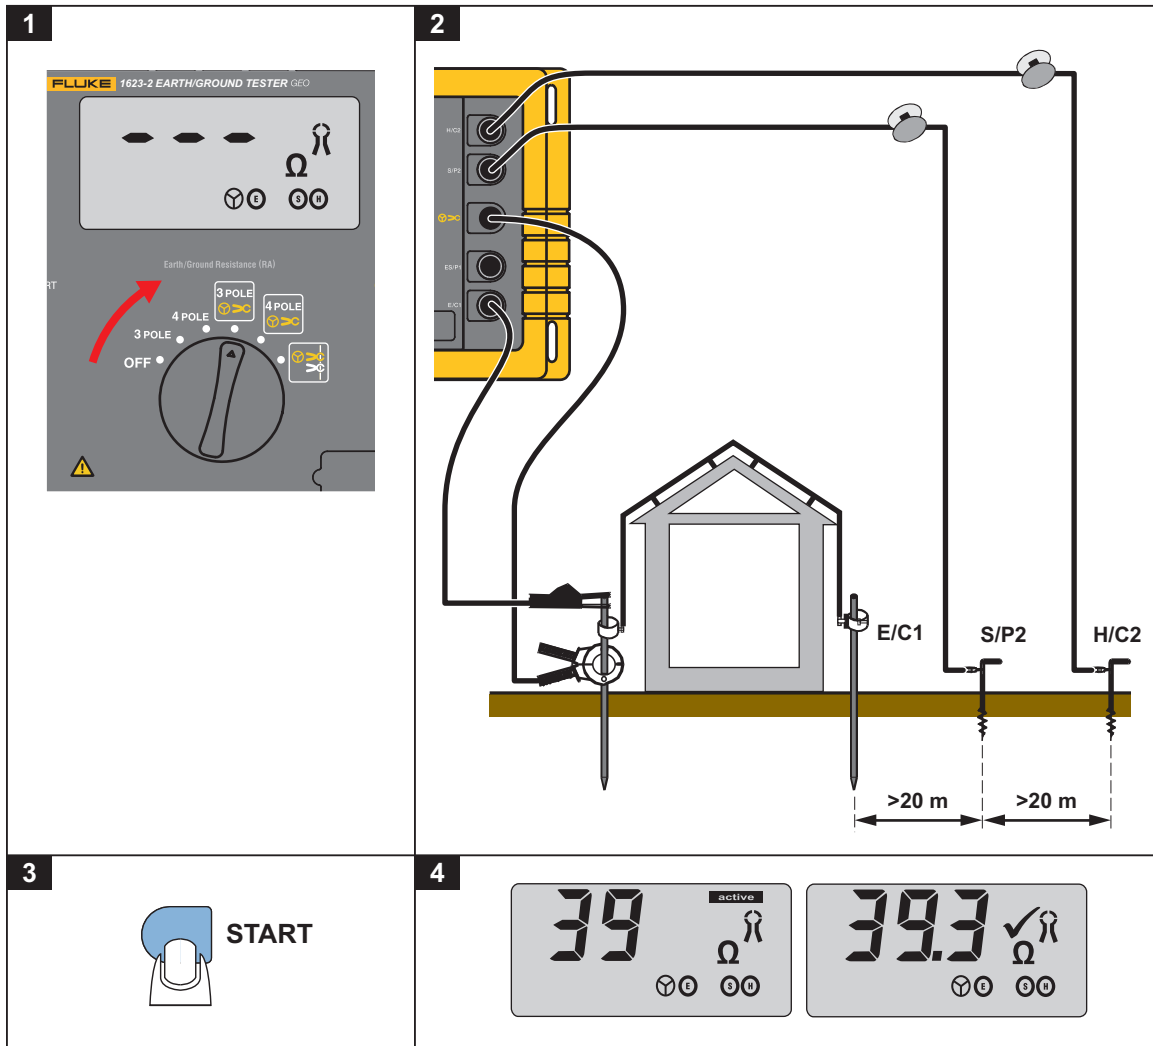

Figure 6. R_A 3-Pole Selective Earth Resistance Measurement with Current Clamp
1. Select **3 POLE** . See Figure 6.